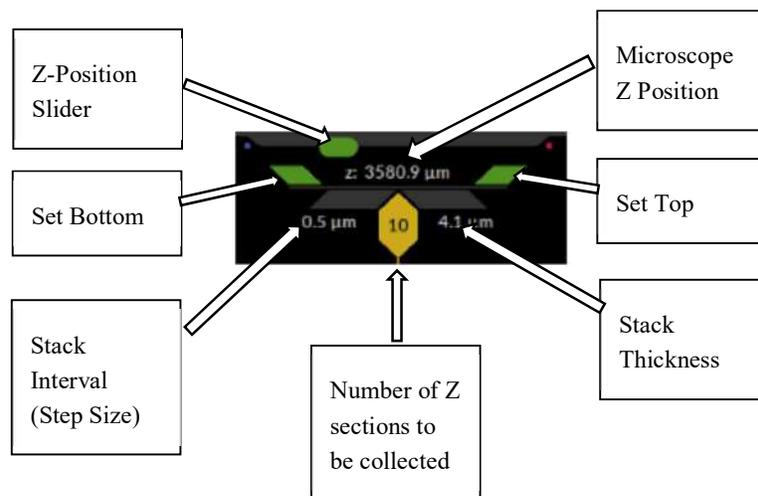

Figure 5.3.1.1 Z-Position Set-up Controls
2. Use the manual focus knob of the microscope to navigate to the bottom of your sample (the value of Z position displayed in Visionary and on the microscope should decrease until the sample is just out of focus) then click the left green 'set bottom' chevron shown in Figure 5.3.1.1. This will set the bottom limit of your Z-stack.
3. Use the manual focus knob of the microscope to navigate through to the top of your sample (the value of Z position displayed in Visionary and the microscope will increase until sample is just out of focus) then click the right green 'set top' chevron as shown in Figure 5.3.1.1.
4. Click the central hexagon to activate Z-stack collection. The hexagon will turn yellow and display the number of images to be collected in the Z-stack as shown in Figure 5.3.1.1. The stack thickness is displayed on the bottom right.
2. Click on the stack thickness number shown in Figure 5.3.1.1 and type in the desired stack thickness (e.g 20 microns). The Z stack will be defined to collect 50% above your mid point and 50% below your mid point